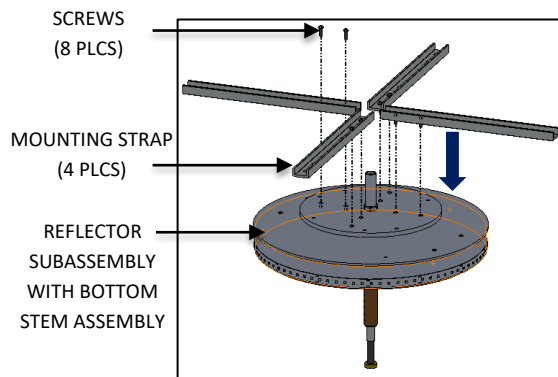

FIG. 13 – MOUNTING
3. Assemble MOUNTING STRAPS to the REFLECTOR SUBASSEMBLY by SCREWS provided as shown in FIG. 13.